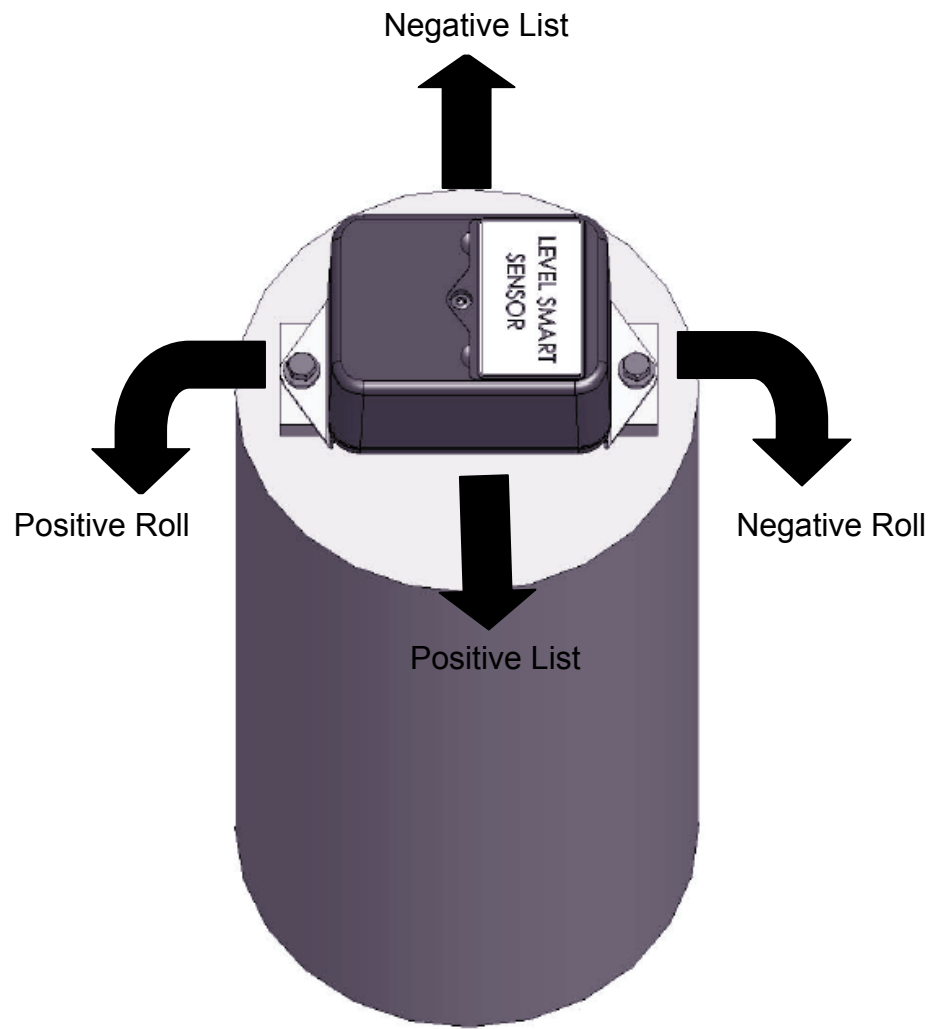

Figure 2 – Example of Mounting
2. The Level Smart Sensor can be mounted to the deck (label facing up) or onto a post (see Figure 2 on page 23). The higher the Level Smart Sensor is from the deck the better the radio transmission will be.